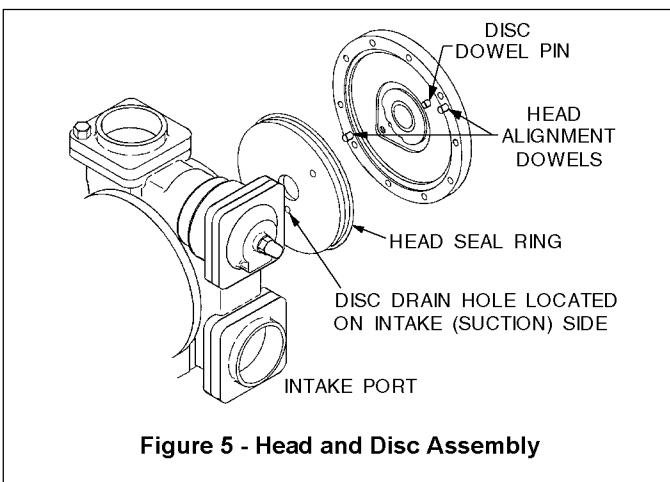

Figure 5 - Head and Disc Assembly
3. Align the disc with the dowel pin in the head and install the disc on the outboard head (23) so that the DISC DRAIN hole will be towards the INTAKE (suction) side of the pump when the head is installed on the cylinder. See Figure 5.
4. Install a new head seal ring (72) in the groove on the inside face of the head, around the outside diameter of the disc.
5. Carefully place the outboard head assembly on the pump cylinder using the alignment dowels for proper positioning. Ensure the disc drain hole faces the INTAKE (suction) side of the pump as shown in Figure 5.